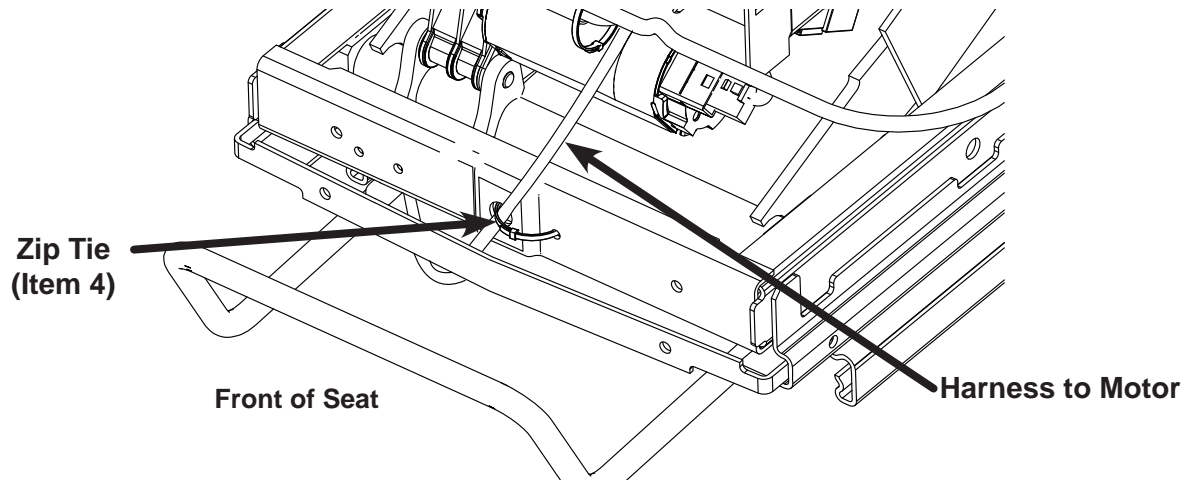

Fig. 13
19. Ensure wire harness at front of seat is tie-strapped to center hole. If it's not, then cut existing cable tie with diagonal cutters and move attachment point to center of seat. Secure wire harness with (1) CABLE TIE (Item 4), cutting excess of cable tie with diagonal cutters See Fig. 13